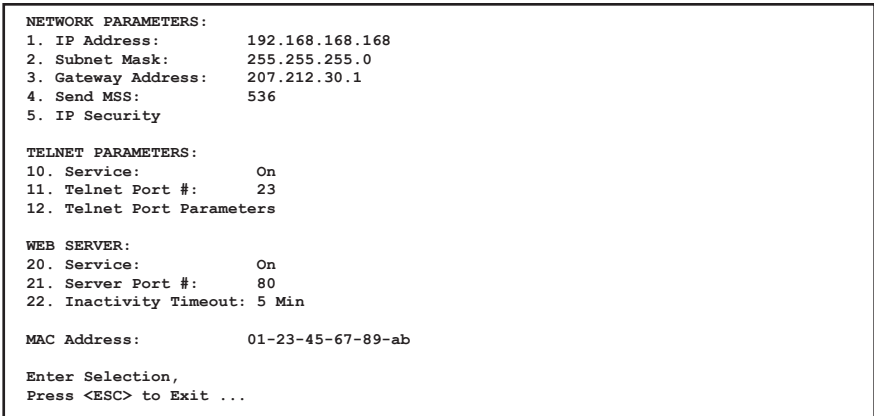
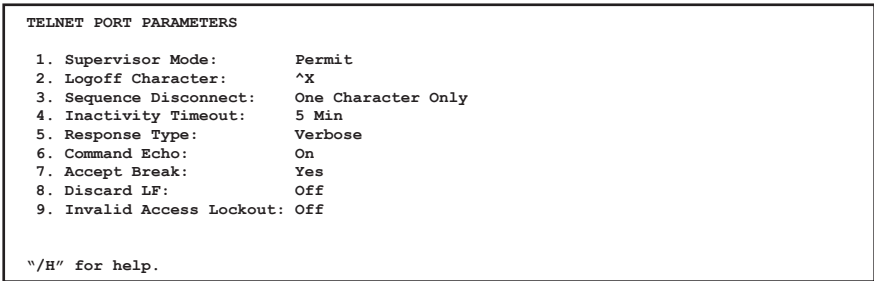

Figure 5.10: Network Parameters Menu - Text Interface
Figure 5.12: The Telnet Port Parameters Menu - Text Interface
- **Text Interface:** Type **/N** and press **[Enter]**. The Network Parameters Menu will be displayed as shown in Figure 5.10.
- **Text Interface:** Type **/N** and press **[Enter]** to access the Network Port Parameters Menu (Figure 5.10.) From the Network Port Parameters menu, type **12** and press **[Enter]**. The Telnet Port Parameters Menu will be displayed as shown in Figure 5.12.